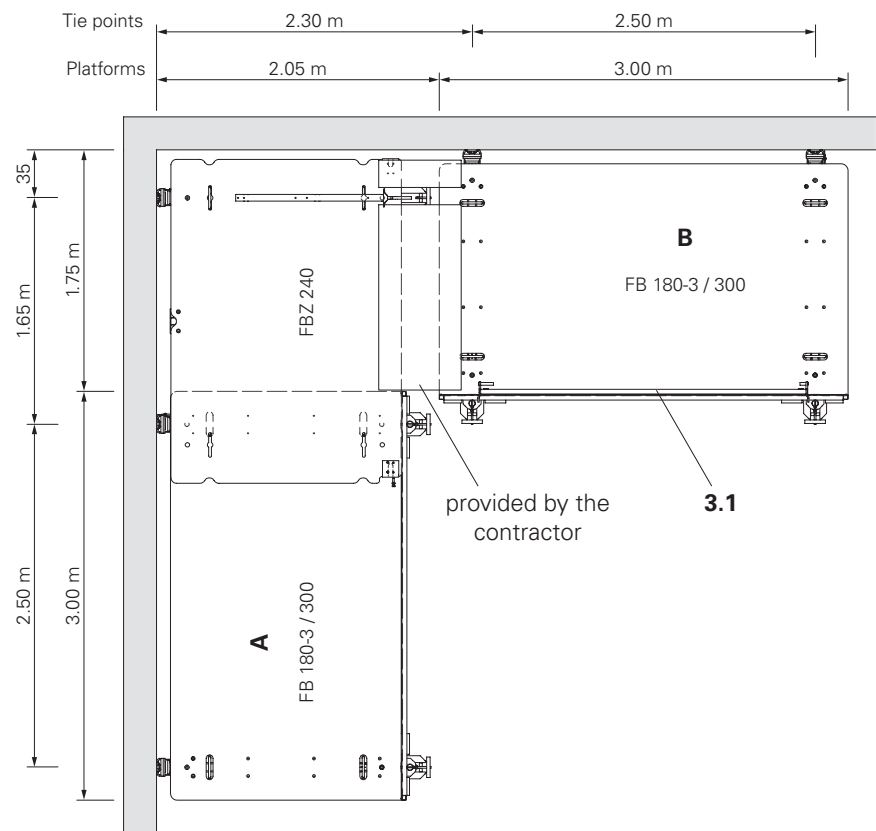

Fig. A3.05
2. Place the stage on the adjacent main platform (A).
3. Attach the main platform (B).
5. Gaps in the deck as well as the toe board between the internal corner platform and next main platform are to be closed with materials provided by the contractor. (Fig. A3.05)